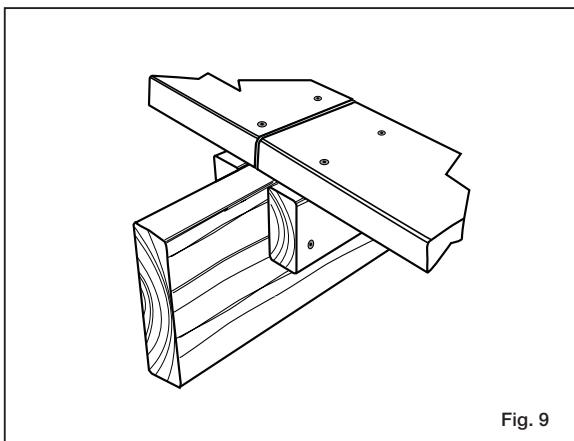

Fig. 9
D) Board End Fastening: For any decking where two boards meet end-to-end over a joist, you must add additional blocking (fig. 9/10). It is required that screws be placed 0.50" from both edges to ensure screws are in the thickest lobed area. Screws must also be placed at least 1-1/2" from the cut end of the deck boards. Be careful to not to over-tighten screws near board ends.